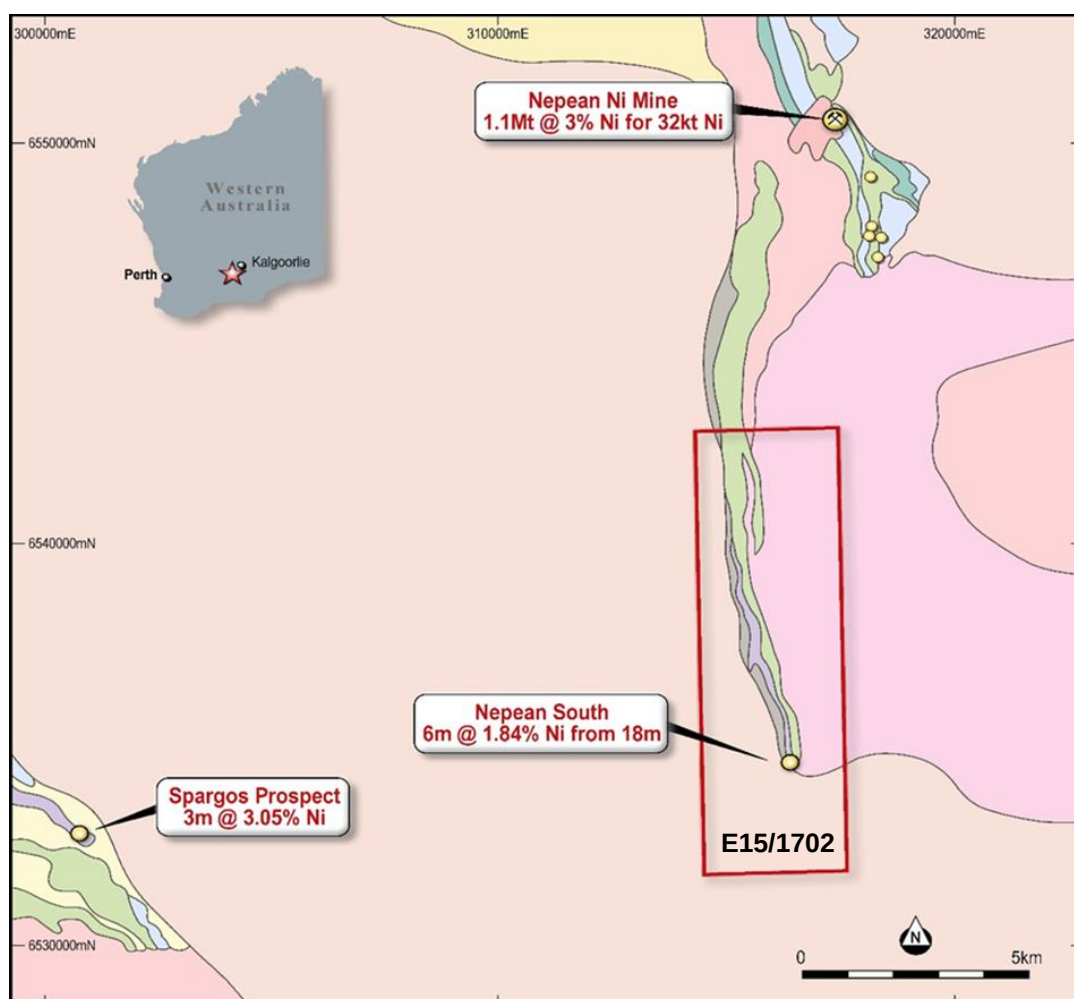

Figure 1: Nepean South Nickel Project location and interpreted geology with Ni occurrences
- **An up to 3,000m reverse circulation (RC) drilling program will test multiple nickel sulphide targets on the Nepean South farm-in project** near Coolgardie, in the world class nickel district of the Eastern Goldfields of Western Australia (Figure 1).
- In addition, a **drone magnetics survey is planned at Nepean South to detail the potentially nickel sulphide bearing komatiitic ultramafics.** Electromagnetic (EM) surveys will also be **carried out to identify nickel sulphide targets** for further RC and/or diamond drilling.
Sabre Resources Ltd (ASX: SBR) ("Sabre" or "the Company") is pleased to announce that the Company has identified multiple nickel sulphide targets and has planned an up to **3,000m RC drilling program at its Nepean South farm-in project** ("Nepean South" or "the Project") near Coolgardie in the highly prospective Eastern Goldfields of WA (see Figure 1 below). The Company is earning an 80% interest in the Nepean South E15/1702 from Metals Australia Ltd (ASX:MLS)¹.
Nepean South is located southwest and in the same geological sequence as the historical Nepean Nickel (sulphide) Mine (see Figure 1 below), owned by Auroch Minerals Limited (ASX: AOU). Nepean was the second producing nickel mine in Australia behind the World-Class Kambalda Nickel Field and **produced 1.1 million tonnes of ore grading 3.0% Ni** (recovered) between 1970 and 1987².
The RC drilling will follow-up previous high nickel grades intersected in shallow RAB drilling completed by Mincor Resources NL (E15/884, 2007-2012). The RAB drilling traverses average a broad, >800m spacing and tested a magnetic corridor of interpreted ultramafic rocks that extends the entire >10km strike length of the Nepean South exploration licence, E15/1702 (Figure 1). Highlights of the RAB results¹ included:
The Company is also earning 80% of the **Nepean South** tenement, E15/1702⁵ (Figure 1), that covers a >10km corridor of ultramafic rocks south of the Nepean nickel sulphide mine. As discussed in this release, a 3,000m drilling program is planned to test under previous high nickel with copper in RAB holes for bedrock nickel sulphide potential and geophysical programs including drone magnetics and EM will test for buried bedrock massive nickel sulphide targets.